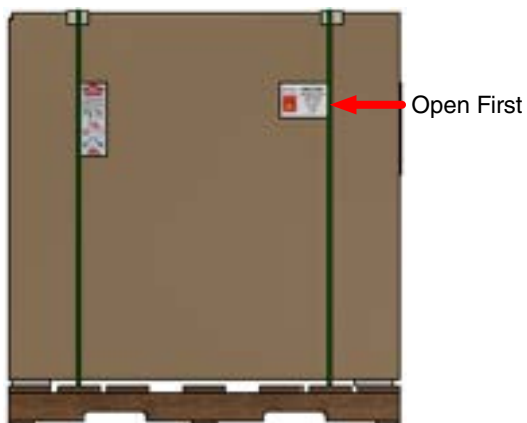

Figure 5a: This Crate has a Carton Banded to a Wooden Skid.
- All QCT testers are shipped in one of two types of crates (Figure 5a and Figure 5b).